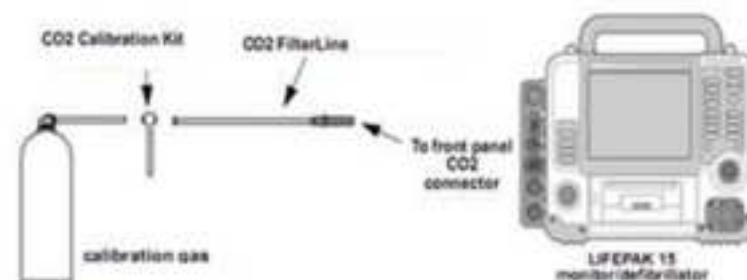

Figure 1.21—CO2 calibration connection
5. Connect the calibration gas canister to the front panel CO2 connector using a standard CO2 Filter Line and the CO2 calibration kit as shown in Figure 1.21.